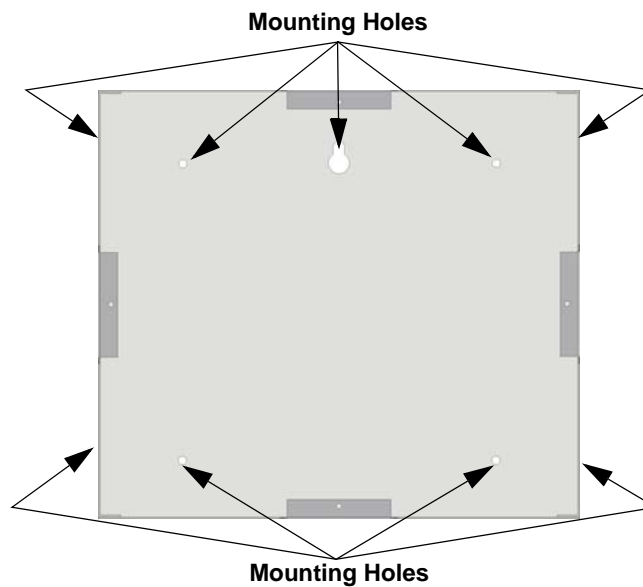

Figure 4-23 Back Box Mounting Holes
1. The back box dimensions are 9¼" W x 8 3/8" H. The minimum depth required is 2". The back box can be mounted prior to the complete installation of the 6860 using any of the mounting holes shown in Figure 4-23.